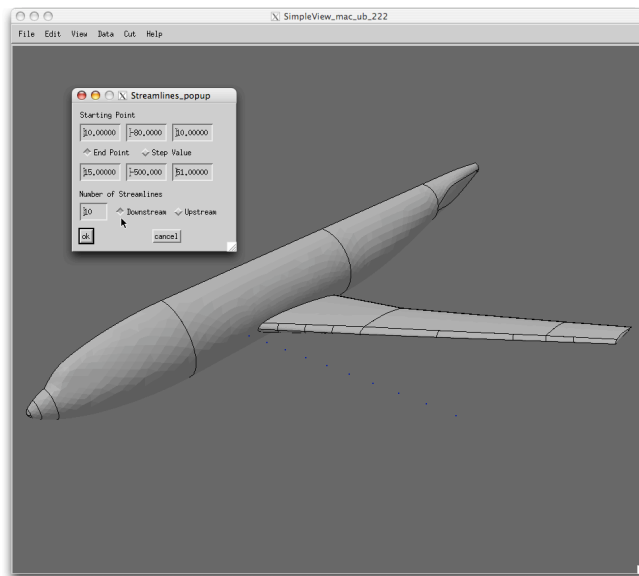
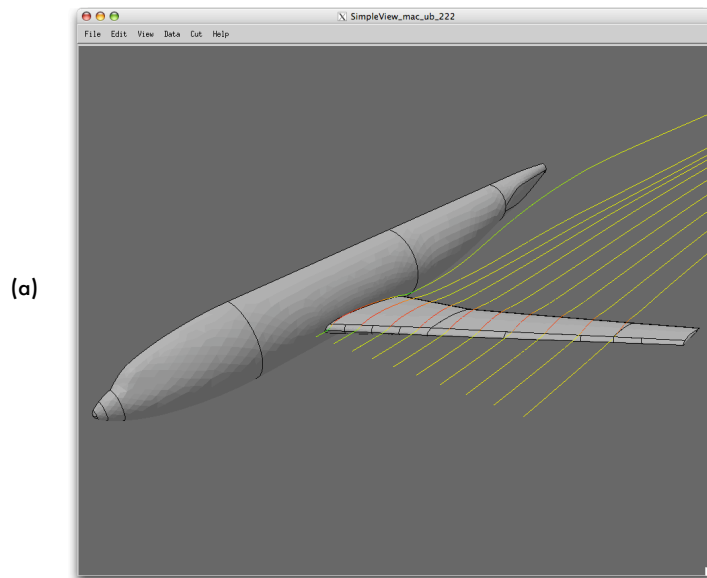

Figure 2.6.9 The Streamlines Dialog
Figure 2.6.10 Streamlines
2. To generate a set of streamlines emanating from a “rake,” select the “Streamlines” option from the Data Menu, which opens the Streamlines dialog, as shown in Figure 2.6.9.
As you enter data into the Streamlines dialog, **SimpleView** will display the points on the rake from which the streamlines will emanate (these are the small blue dots seen just upstream of the wing leading-edge in Figure 2.6.9). Hitting the “ok” button will begin streamline generation. If the “Streamline Scaling” option is off, streamlines are drawn in the default streamline color (yellow by default), which can be changed from the Color submenu. If the “Streamline Scaling” option is on, streamlines are shaded by velocity. The default scaling range is from low (blue) to high (red). Examples of streamlines generated using the rake shown in Figure 2.6.9 are shown in Figure 2.6.10 (for both “downstream” and “upstream” streamlines).